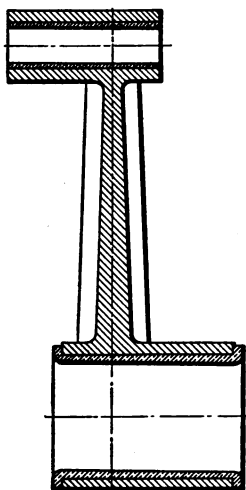

Fig. 60. Offset Connecting Rod Showing How Bearings Wear
*Offsetting Causes Trouble.* Many motors have been constructed with offset connecting rods, that is, the perpendicular center line of the wristpin, located in the piston, where the pressure is applied, is not upon the center line of the bottom end. This resultant wear on the bearings is exaggerated in Fig. 60, which indicates also how this situation causes wear on